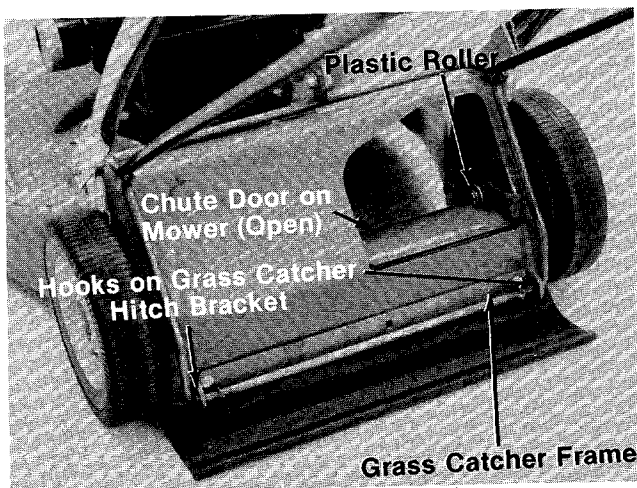

FIGURE 9.
- ← 1. Attach the grass catcher frame to grass catcher hitch bracket on rear of the mower by hooking grass catcher into hooks on grass catcher hitch bracket. See figure 9.
2. Lift the rear of grass catcher up. The roller on the grass catcher will push the chute door on the mower open. See figure 9.
Figure 9 is shown with the chute door open for photo clarity only.